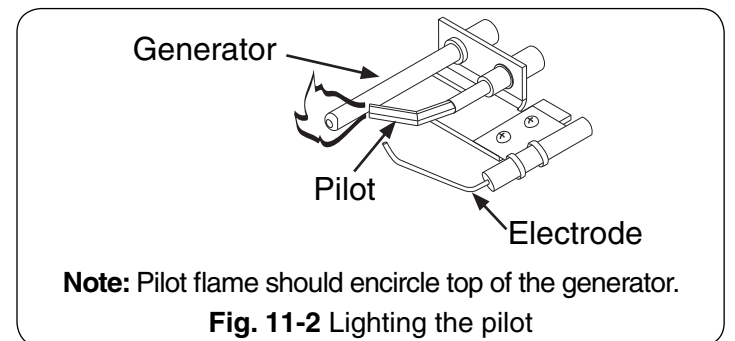

Fig. 11-2 Lighting the pilot
- a. The pilot flame should encircle the generator tip, and is preset at the factory (Fig. 11-2).